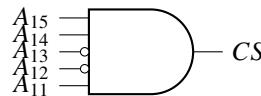

Fig. 3.14
28. The chip select logic for a certain DRAM chip in a memory system design is shown below in Fig. 3.14. Assume that the memory system has 16 address lines denoted by  $A_{15}$  to  $A_0$ . What is the range of addresses (in hexadecimal) of the memory system that can get enabled by the chip select (CS) signal?